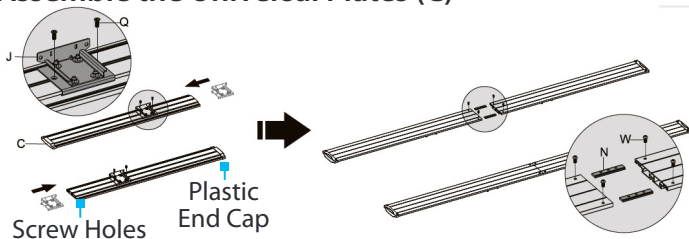

Figure 6
1. Place the **Universal Plates (C)** next to one another on a clean and flat surface with the **Plastic End Caps** facing the outer edges and the **Screw Holes** facing down. (Figure 6)
2. Slide one **Connector (J)** into the **Universal Plate (C)**, align the screw holes and secure with screws.
**Note:** Both **Connectors (J)** must be oriented the same way.
3. Flip the **Universal Plates (C)** and place them next to one another with the **Plastic End Caps** facing the outside edges and the **Screw Holes** facing up.
4. Slide two **Fixing Plates (N)** into the grooves of the **Universal Plates (C)**, located underneath the **Screw Holes**. Align the **Screw Holes** in the **Universal Plates (C)** with the **Holes** in the **Fixing Plates (N)**.
5. Insert four **M6 x 14 mm Screws (W)** through the **Screw Holes** in the **Universal Plates (C)** and into the **Fixing Plates (N)**.
6. Tighten all four **M6 x 14 mm Screws (W)**, using a **Phillips Head Screwdriver**.